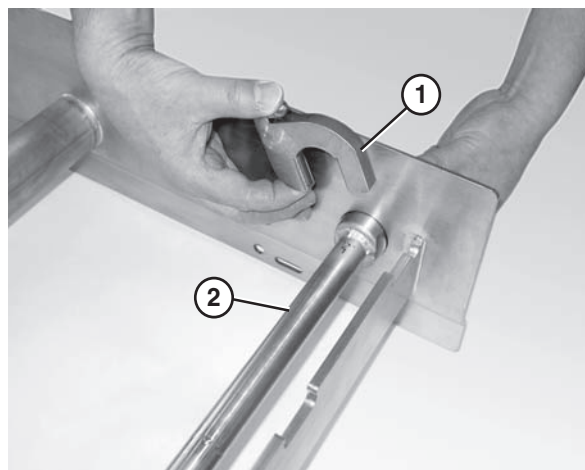

Figure 26
2. Attach the key stops (Figure 26, item 1) to the tip up shaft (Figure 26, item 2). The rounded end of the key stop should be facing the tail.